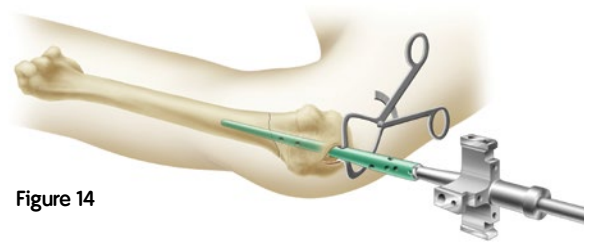

Figure 14
1. Insert the nail over the 2.0mm Graduated Ball Tip Guide Rod and through the Entry Cuff Guard (Figure 14) until the lateral ledge on the drill guide is above the lateral cortex and the nail is seated just below the articular surface (Figure 15). The lateral arm of the drill guide should be oriented with approximately 30-35° of Adjustments to this version can be made so that the anterior arm of the drill guide is in line with the lesser tuberosity, avoiding alignment with the bicipital groove.